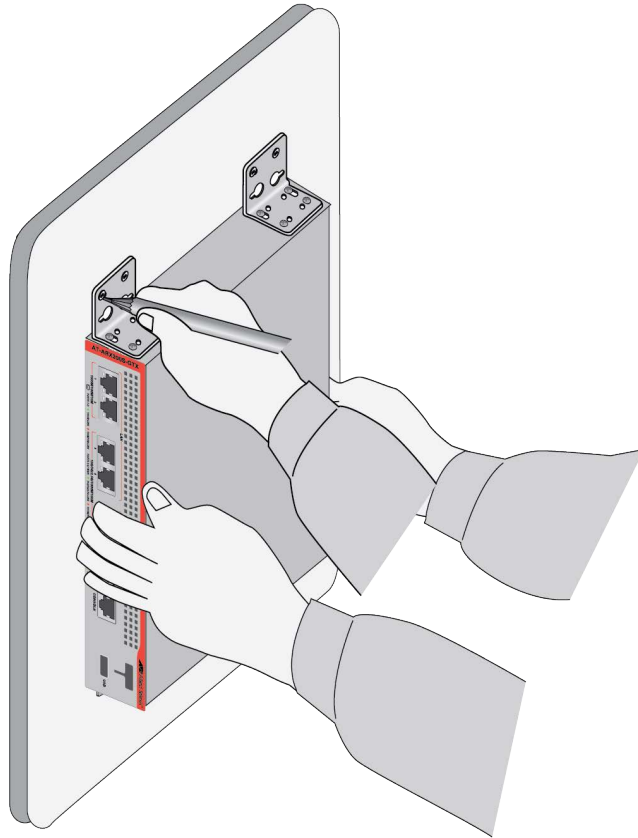

Figure 50. Marking the Locations of the BRKT-J24 Bracket Holes on a Concrete Wall
- You can install the router with the front panel facing up, left, or right, Figure 50 on page 85 shows the router with the faceplate on the left.